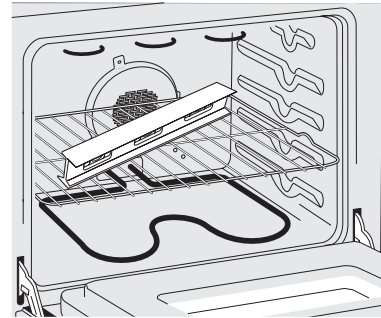
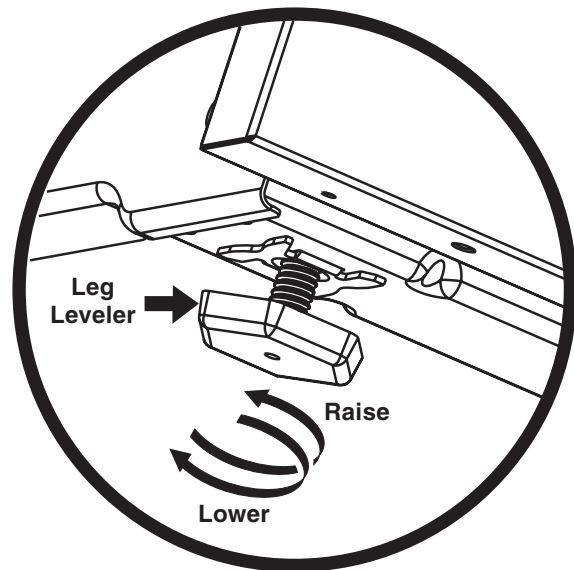

Figure 2
Figure 3
- Place a level on the rack (see Figure 2). Take 2 readings with the level placed diagonally in one direction and then the other. Level the range, if necessary, by adjusting the 4 leg levelers with a wrench (see Figure 3).